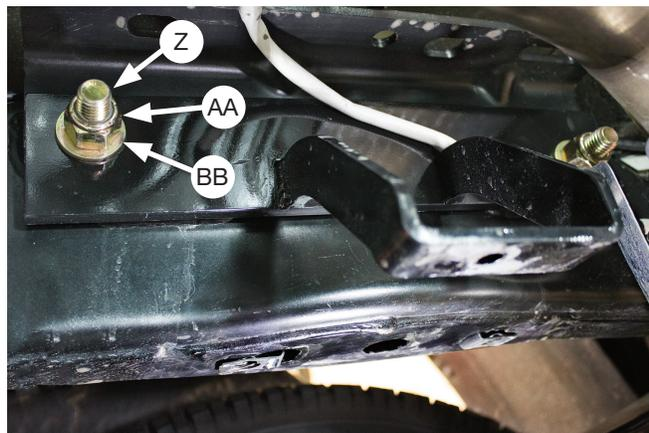

Fig. 30
- Remove the factory fifth wheel hitch hardware (if equipped), from the holes in the side of the frame. Using the existing holes in the frame, attach the upper frame brace (F) to the frame using the factory hitch hardware removed or the 5/8" (Z, AA, BB) hardware supplied (Fig. 30). Leave loose at this time.